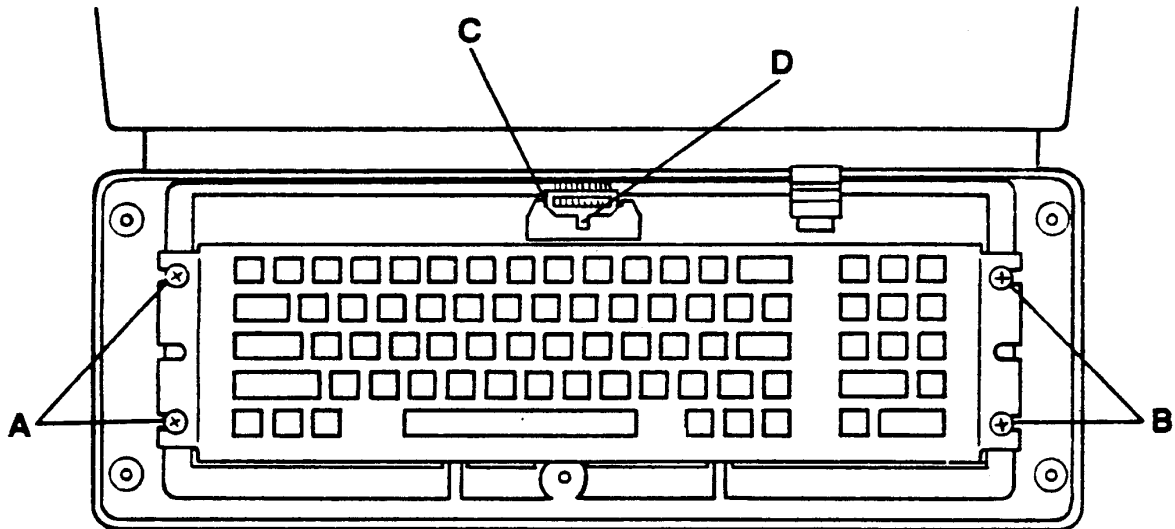

FIGURE 3.2
6. Locate and remove the two (2) retaining screws on the left end of the keyboard. Refer to Figure 3.2 item A. Loosen the right two (2) retaining screws. Refer to Figure 3.2 item B.
8. Disconnect the keyboard cable, located on the middle rear edge of the exposed keyboard. Refer to Figure 3.2 item C. Do not pull on the cable. Disconnect by using a screwdriver to push on the tab on the cable connector. Refer to Figure 3.2 item D.